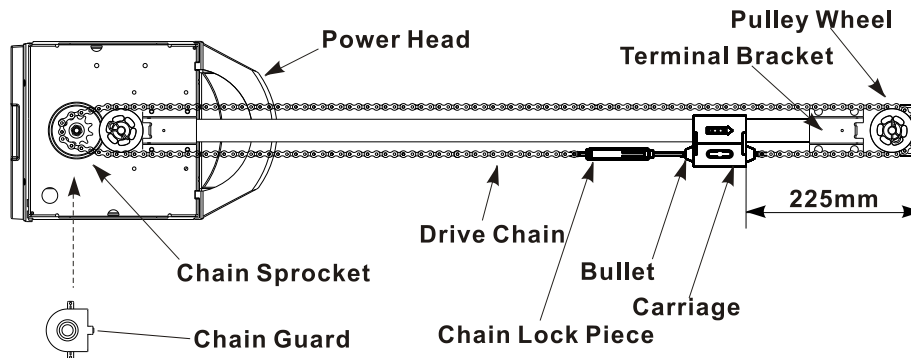

Fig 4
- Position the Carriage approx 225mm from the Terminal Bracket. (Fig.4)
- Insert the Bullet into the Carriage and engage the Carriage so as to lock the Bullet into place. (Fig.4)
- Pull the Drive Chain towards the Terminal Bracket and wrap it around the Chain Sprocket. (Fig.4)
- Continue to extend the chain back towards the Power Head and wrap the Drive Chain around the Chain Sprocket ensuring that the teeth of the Chain Sprocket engage into the links of the Drive Chain. (Fig.4)